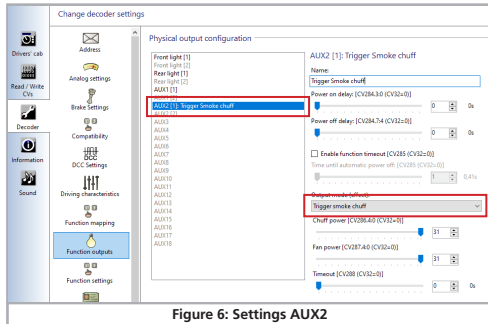

Figure 6: Settings AUX2
- Select "Exhaust trigger" and adjust smoke and blower to the value 31 and the "Timeout" to 0. Fig. 6 shows the relevant settings.